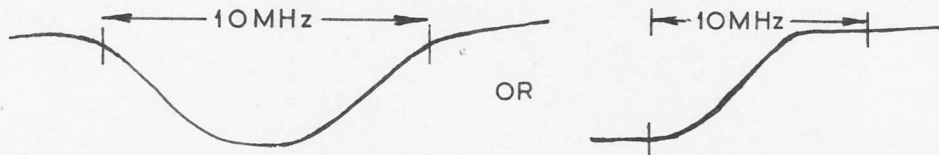

Fig. 2 Resonance Traces Obtained on Polyskop
- 3.3 Tune the resonator nearest the input for a resonance at the centre frequency. This is indicated by a disturbance to the trace which moves along the trace as the resonator is tuned. The two centre resonators should be adjusted well away from resonance by noting whether the input resonator capacitor has to be set near maximum or minimum and setting the centre resonator capacitors to the opposite condition. Obtain a resonance trace that is not too shallow and not too sharp across the channel. Fig. 2 shows typical results.